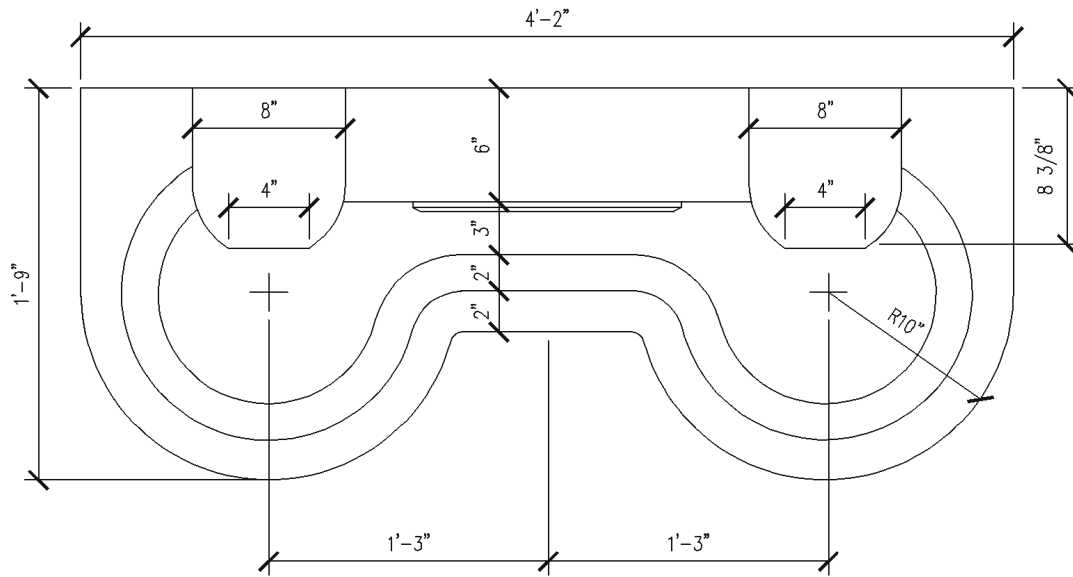

FIGURE 4-1.4 Draw this lavatory system in a new drawing file with origin centered on the back side
10. In a new drawing, draw the *Lavatory System* shown in **Figure 4-1.4**; make sure the origin is at the back and centered.